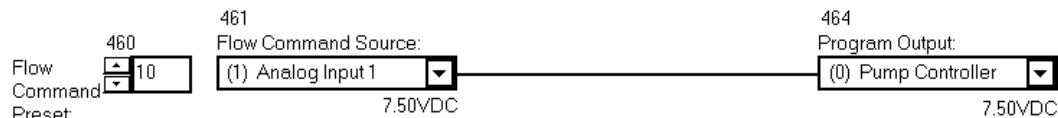

Figure 8: Simple Flow Program
Example: Figure 8 shows the Program 7 Form for Flow Control. The Flow Command Source is Analog Input 1 (program item 461=1). The Flow Command Preset is set to 10% (program item 460=10) although the preset is not used in this example. The Program Output is set to the Pump Controller (program item 464=0).